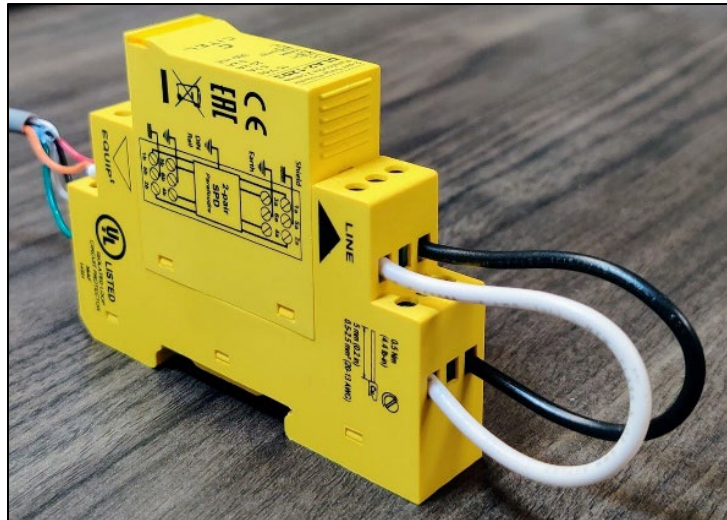

Figure 5 Loopback Wiring on the RS422 SPD
- Communication can be tested via a loopback test, which can be run by inserting a jumper wire or paper clip alongside the wires: between inserts 1a (or 1) and 3a (or 7), as well as inserts 2a (or 5) and 4a (or 11) (Figure 5).